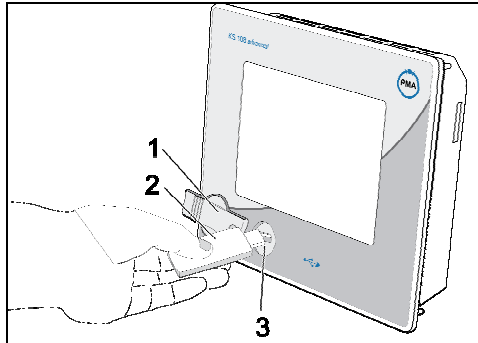

Fig. 43: Using the USB stick
2. **Insert the USB stick:** Carefully lift the cover of the USB connection (Fig. 43/1) on the front of the device and turn it to the side. Now insert the USB stick (Fig. 43/2) in the connection (Fig. 43/3).